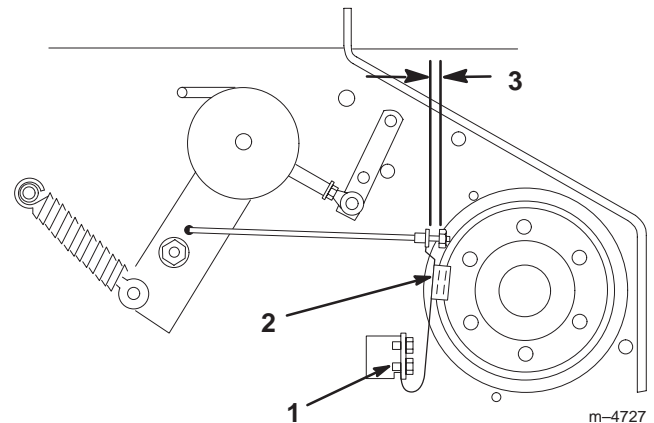

Figure 50
- If necessary, adjust the spring mounting bolts so that the blade brake pad rubs against the pulley edges (Fig. 50).
- Adjust the nut at the end of the blade brake rod until there is $1/8$ – $3/16$ in. (3mm–5mm) between the nut and spacer (Fig. 50).